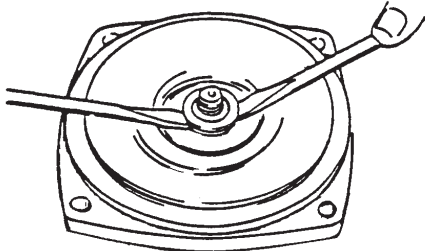

Figure 17 - Remove Mechanical Seal
- b. Using two (2) screwdrivers, pry the ceramic seal and rubber gasket from the recess of the mounting ring (See Figure 17).